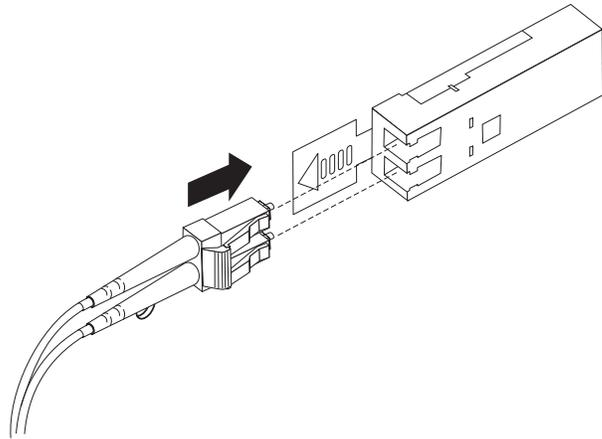

Figure 29. Inserting an LC-LC fibre-channel cable into an SFP module
4. Carefully insert this end of the LC-LC cable into an SFP module that is installed in the DS4200 Express. The cable connector is keyed to ensure it is inserted into the SFP module correctly. Holding the connector, push in the cable until it clicks into place, as shown in Figure 29 on page 50.